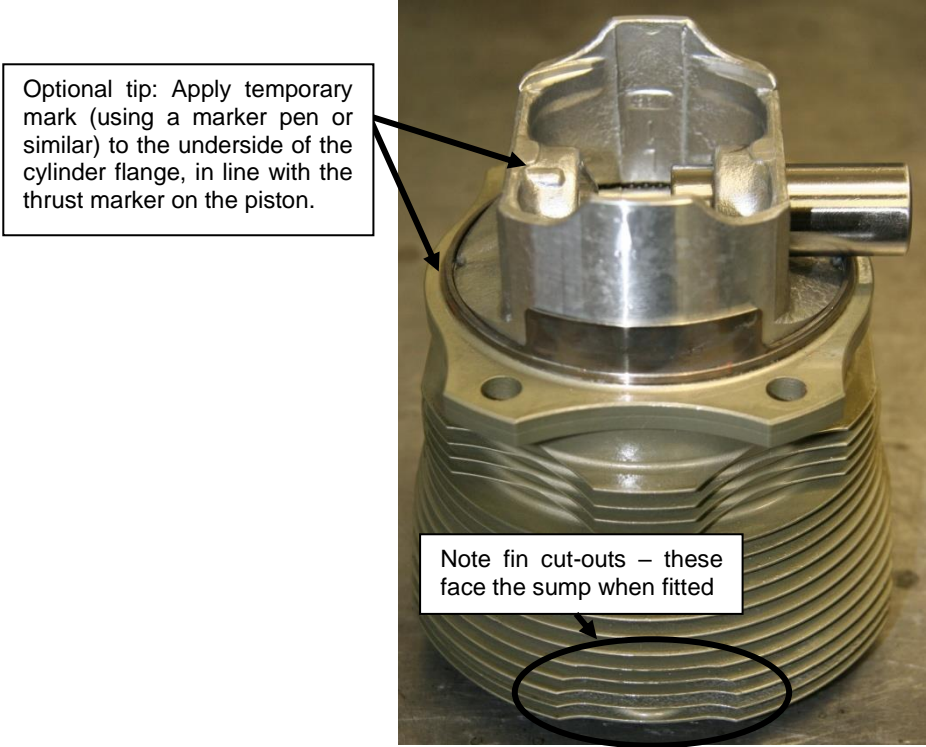

Figure 141 – Piston / Ring / Cylinder Assembly
- Start the gudgeon pin into the piston as shown in Figure 141 (left).